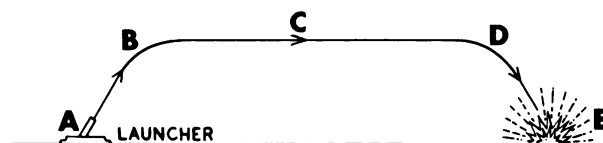

Figure 3O.—Flight path of a surface launched missile.
69. What point in the missile flight path shown in figure 3O is known as the dump point?
70. Practically all missiles make use of preset guidance during one particular portion of their flight. During which portion of the flight path shown in figure 3O will preset guidance probably be used?